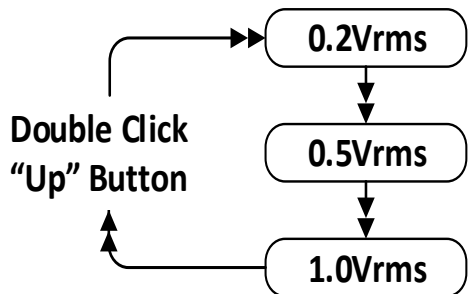

Figure 3-3: Switch Test Voltage by Double Clicking the "Up" Button
- Double click the "Up" button to switch test voltage as Figure 3-3 shows.